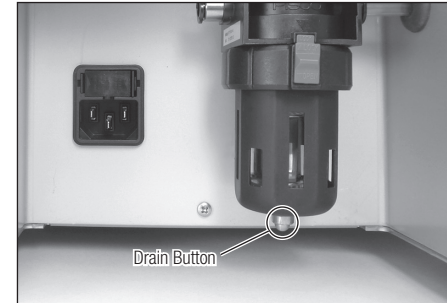

Fig. 27
- 1) When water accumulates in the Air Filter case, press the Drain Button at the bottom of the case to drain the Air Filter (Fig. 27).